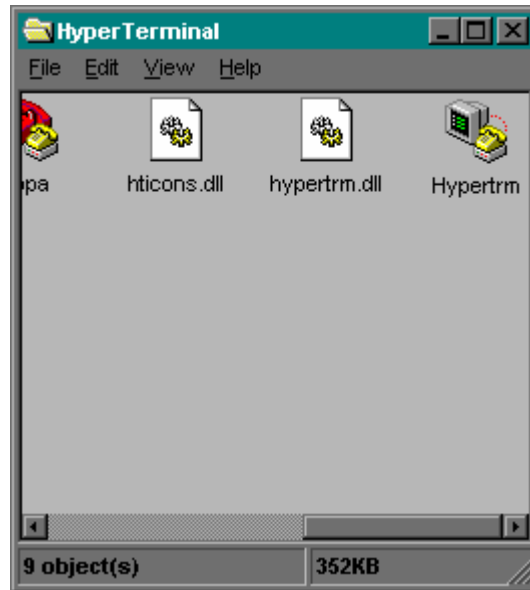

Figure 4-7. HyperTerminal window
2. Move the cursor to "Programs", then over to "Accessories" and then over to "HyperTerminal". Then click on "HyperTerminal". This will bring you to the HyperTerminal Window as shown in Figure 4-7.